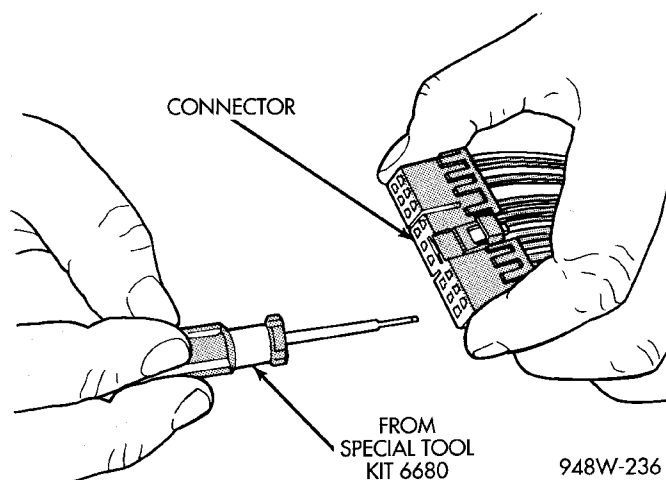
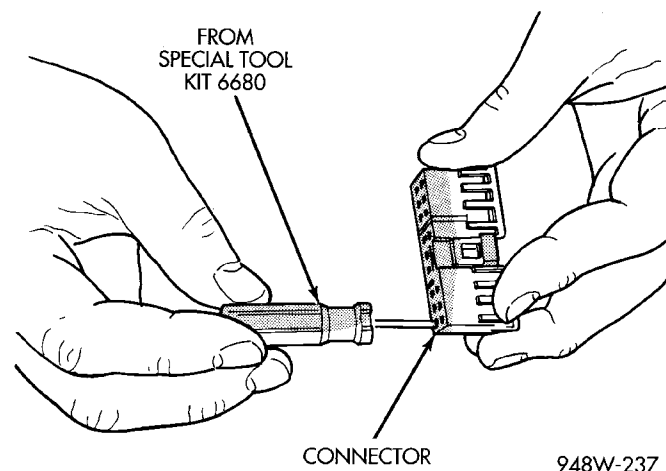

Fig. 21 Terminal Removal
Fig. 22 Terminal Removal Using Special Tool
(4) Position the connector locking finger away from the terminal using the proper pick from special tool kit 6680. Pull on the wire to remove the terminal from the connector (Fig. 21) (Fig. 22).
(5) Cut the wire 6 inches from the back of the connector.
(6) Remove 1 inch of insulation from the wire on the harness side.
(7) Select a wire from the terminal repair assembly that best matches the color wire being repaired.